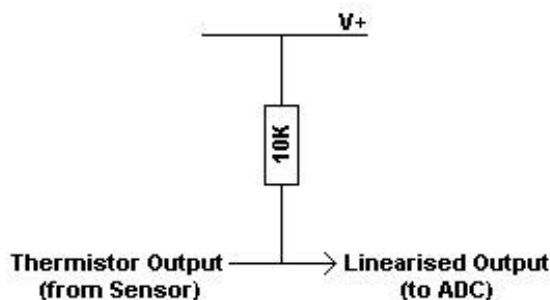

Figure 5 – Thermistor circuitry
- b.) Thermistor – One end of the thermistor is internally connected to the 0 V line. The output of the thermistor needs to be placed in series with a 10 kΩ resistor as shown in Figure 5. The voltage output at the mid-point can be used to calculate the temperature.